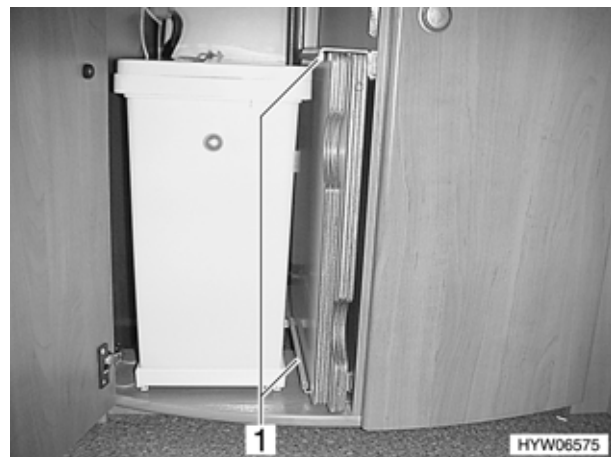

Fig. 8 Holder for sink covers of double sink (C-GT)
- Push the sink covers into the mounting rails (Fig. 8,1) at the top and bottom.